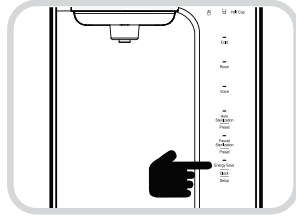

Fig. 4
- Press the Energy Save/Clock (Setup) button for three seconds. (Fig. 4). The Voice Guide will say "selecting user setting mode". "user setting mode, please set function by pressing the illuminated button".
- Select the desired amount of out flow and save it by pressing the Energy Save/Clock (Setup) button. (Fig. 4)
- Press The Energy Save/Clock (Setup) button while the Energy Save/Clock (Setup) Display Lamp is OFF. (Fig. 4).